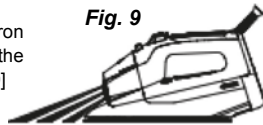

Fig. 9
-Use the front lights of the iron to illuminate the corners of the clothes when ironing.[Fig. 9]